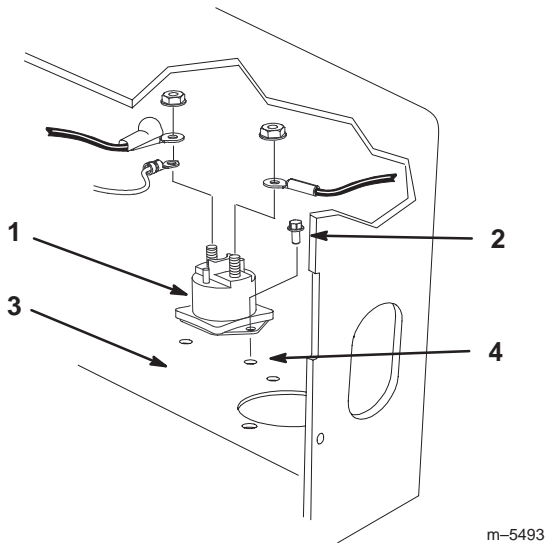

Figure 5
1. Install the solenoid to the engine deck with 2 bolts as shown in figure 5.